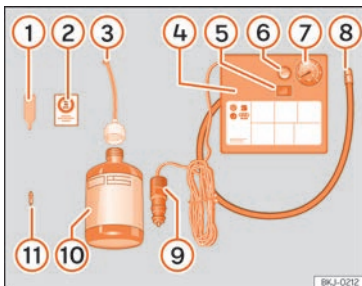

Fig. 246 Standard display: contents of the anti-puncture kit.
The anti-puncture kit is located underneath the floor covering in the luggage compartment. Includes the following components »» Fig. 246:
- Unscrew the tyre valve cap and insert. Use the device »» Fig. 246 ① to remove the valve cap. Place it on a clean surface.
- Shake the tyre sealant bottle vigorously »» Fig. 246 ⑩.
- Screw the tyre inflation hose »» Fig. 246 ③ into the tyre sealant bottle. The bottle's seal will break automatically.
- Remove the filler cap »» Fig. 246 ③ and screw the open end of the tube into the tyre valve.
- Replace the howitzer with the device »» Fig. 246 ① onto the tyre valve.
- Screw the tyre inflation tube of the compressor »» Fig. 246 ⑧ on the tyre valve.
- Check that the air evacuation screw is closed »» Fig. 246 ⑥.
- Attach the connector »» Fig. 246 ⑨ to the vehicle's 12 volt power outlet »» page 233.
- Switch on the air compressor with ON/OFF switch »» Fig. 246 ⑤.
- Attach the sticker >>> Fig. 246 (2) to the instrument panel display, within the driver's field of vision.
Screw in the inflator tube >>> Fig. 246 (8) again and check the pressure on the gauge (7).